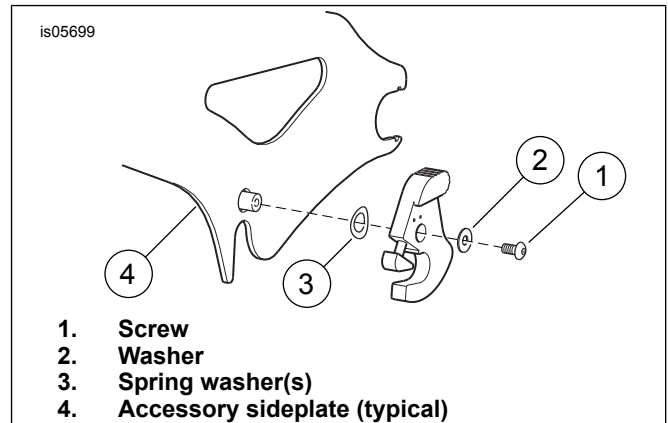

Figure 1. Remove Latch (outer left installation shown)
2. See Figure 1. Remove the screw (1) and washer (2) from the latch(es) to be replaced by the new locking latch. Save the screw and washer for installation. Depending on the accessory, there may be a second small washer below the screw, sticking to the accessory post. If equipped, save and reuse both washers. The following directions will assume there is only one washer.